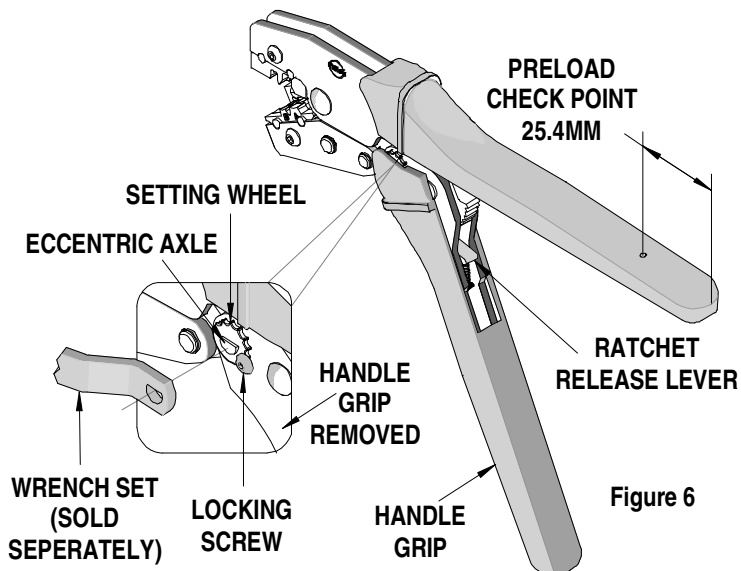

Figure 6
3. Make certain all pins; pivot points and bearing surfaces are protected with a thin coat of high quality machine oil. Do not oil excessively. The tool was engineered for durability but like any fine piece of equipment it needs cleaning and lubrication for a maximum service life of trouble free crimping. Light oil such as 30 weight automotive oil used at the oil points shown in Figure 6, every 5,000 crimps or 3 months, will significantly enhance the tool life.
Should this tool ever become stuck or jammed in a partially closed position, **Do Not force the handles open or closed.** The tool will open easily by pressing the ratchet release lever. See Figure 6.
## How To Adjust Tool Preload (See Figure 6)